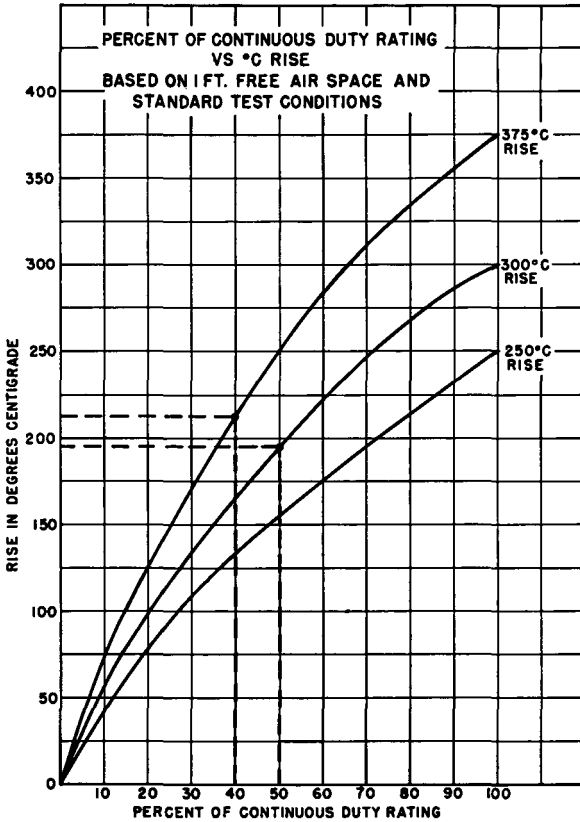

Figure 3-12. Percent of Continuous Duty Rating vs °C Rise
- (1) Load versus temperature rise
- (2) Grouping and spacing
- (3) Derating factor for enclosures
- (4) Voltage on unit
- (5) Duty on unit
a. *Load versus Temperature Rise*—The curves of Figure 3-12 show the temperature rise that can be expected at any load from zero to 100 percent of rated load for resistors whose nominal rating is based on a 250°, 300° or 375°C rise as measured under standard test conditions with one foot of free air space around the resistor. The 300°C or the 250°C curves should be applied to Vitrohm units while the 375°C curve is applicable to open or unembedded resistors such as Ribflex.